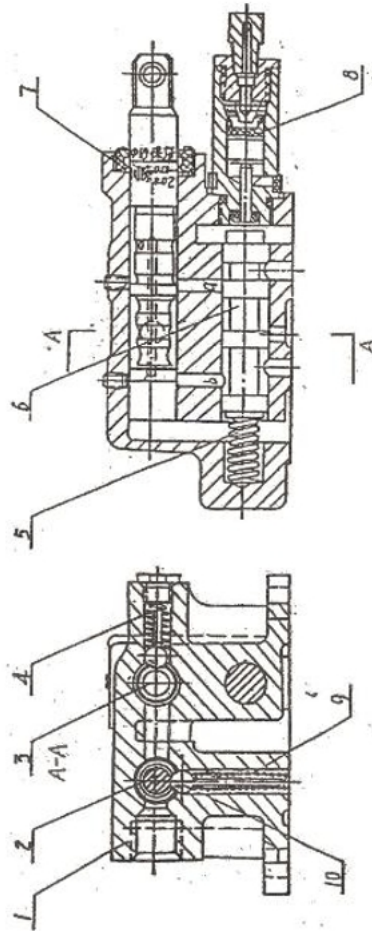

Figure 2-6: Gear Box Control Valve
a. Gear box control valve (Figure 2-6)